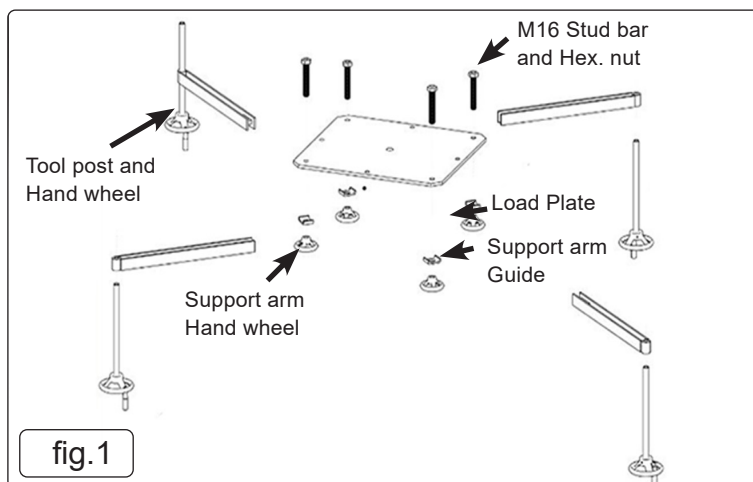

fig.1
- 4.2. Thread M16 Stud and Hex nut (fig.1) into load plate such that underside of the nut rests on the surface of the Load Plate and that the stud is flush with the nut.